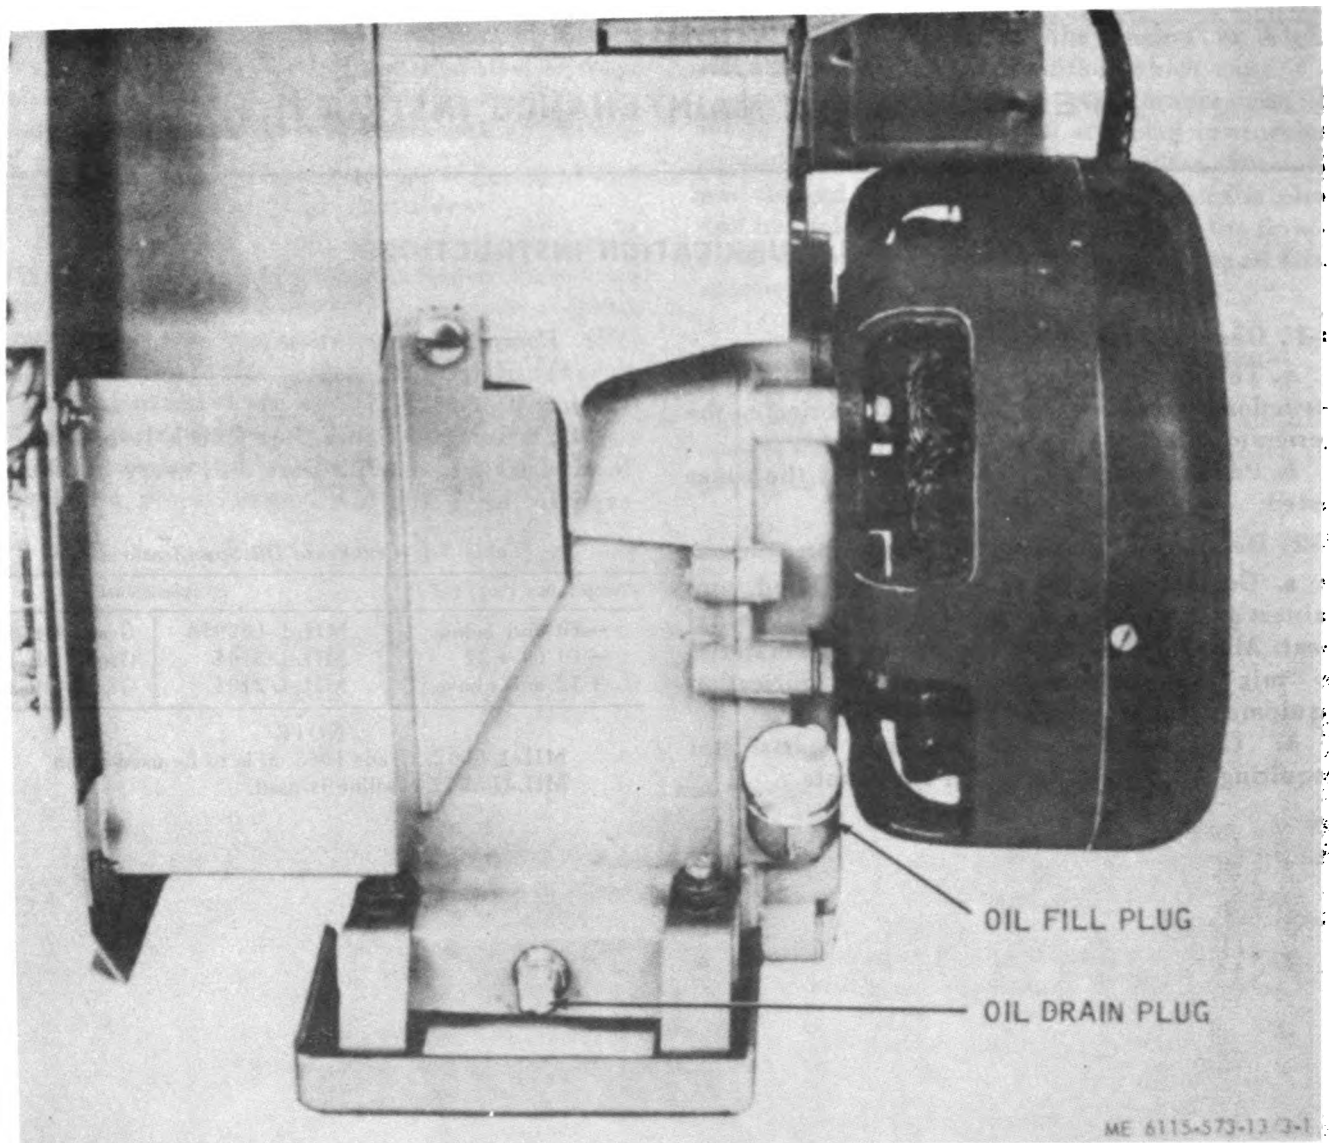

Figure 3-1. Oil fill and oil drain plugs.
(1) Refer to table 3-1 for applicable lubricants.
(2) Refer to figure 3-1. Check level every 4 hours; drain and refill (para 3-9) every 25 hours; capacity is ½ quart.
(1) Remove cover from carrying case (para 3-8 a) and remove generator set from case. Place set on a hard level surface.
(2) Remove oil fill plug (fig. 3-1).
(3) Fill crankcase with proper oil (para 3-2 d) until oil level reaches top threads of oil fill opening.
(4) Replace oil fill plug and tighten securely.
(5) Replace generator set in carrying case. Be sure control panel fits within control panel cut-out.
(6) Replace cover on carrying case.
(7) Refer to paragraph 3-2 c for additional lubrication procedure.